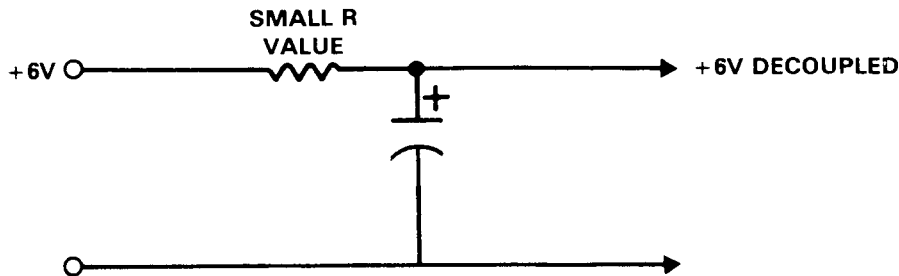

Figure 2-1. Decoupling
8. Decoupling-The power bus (+6V) can be decoupled by cutting the bus with a sharp knife at the point desired. Place a low value resistor (under 1k) in series with the +6V supply and add a capacitor (less than  $1\mu\text{F}$ ) as shown in Figure 2-1. For noisier applications a low inductance (approximately  $100\mu\text{H}$ ) coil could be substituted for the resistor.